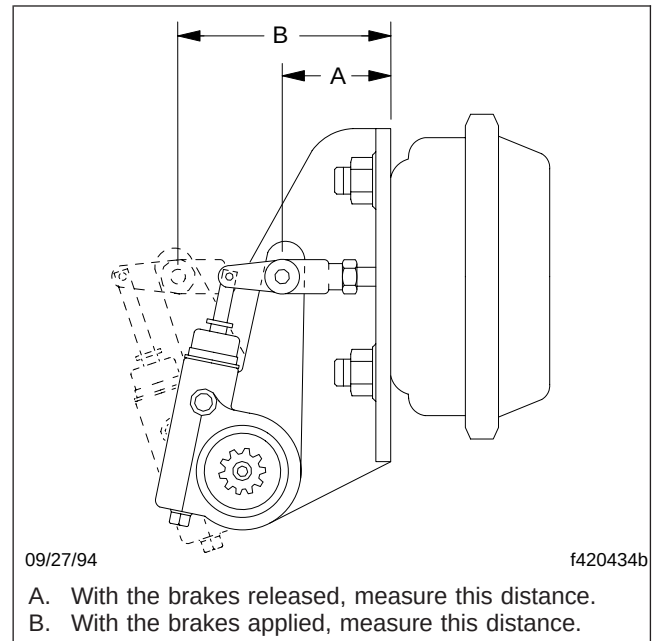

Fig. 11, Brake Stroke Check, Gunite Automatic Slack Adjuster
- 3.1 With the brakes fully released, use a ruler to measure the distance from the bottom of the brake chamber to the center of the large clevis pin. See **Fig. 11**, Ref. A.
- 3.2 Build air pressure to at least 85 psi (585 kPa). Apply the brakes, then measure the distance from the bottom of the brake chamber to the center of the large clevis pin. See **Fig. 11**, Ref. B. The difference between the measurements is the brake chamber stroke.